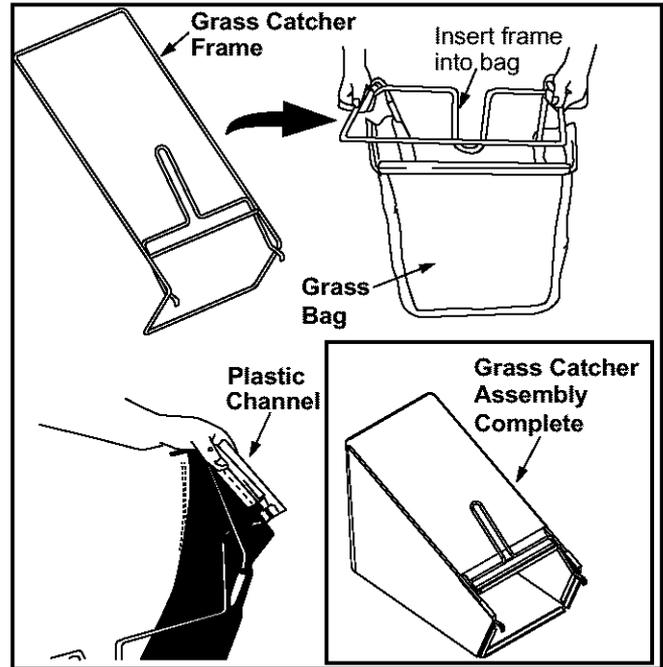

Figure 7
1. Insert frame into grass bag with the black plastic side on the bottom of bag. See Figure 7 .
**IMPORTANT:** Entire channel except the center top of the bag attach from outside of bag. The center top of the bag attaches from inside of bag. See Figure 7 .